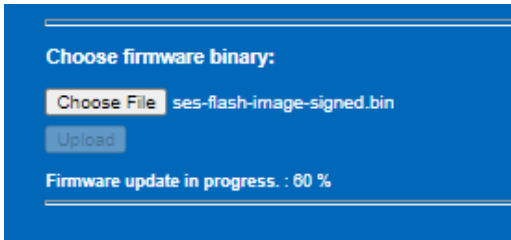

Figure 169. Firmware Update – Upload to Web Server
2. Figure 169 shows the progress of the file upload into the web server.